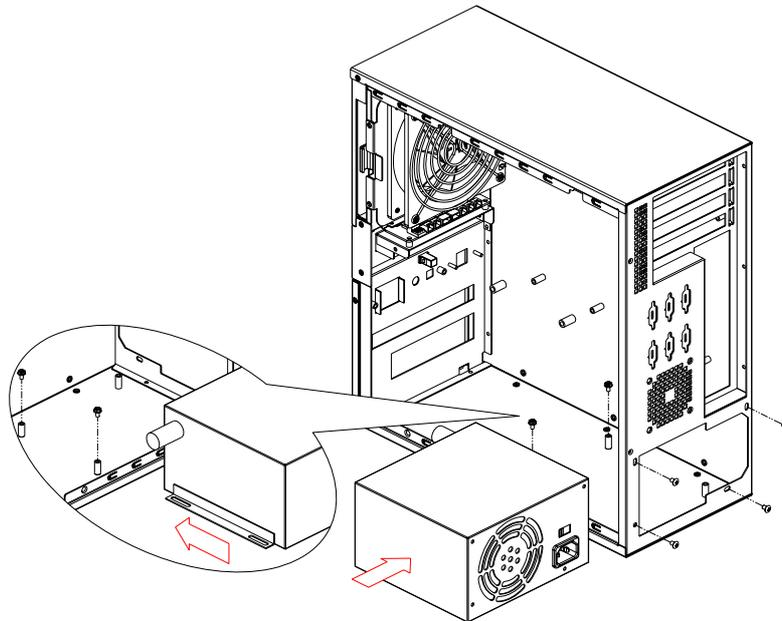

**Figure 3.6 Replacing the filters**
2. Take out the filter which is behind the iron net from the side of chassis. (see Figure 3.6)
4. Put the fan filter back from the side of chassis. (see Figure 3.6)